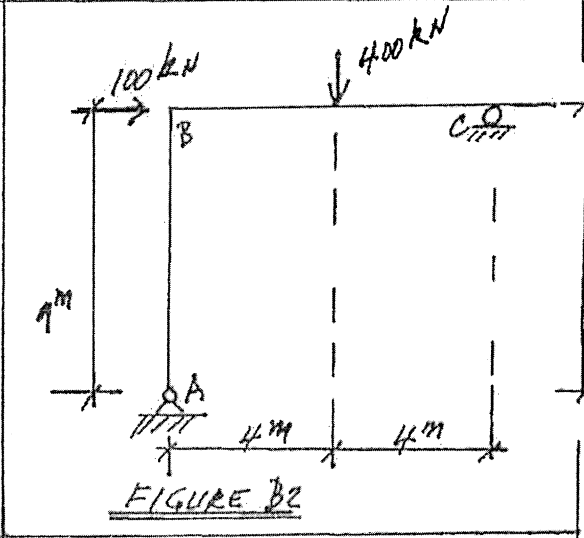

FIGURE B2
- B2. Figure B2 shows the profile of a determinate reinforced concrete frame, ABC. Design a rectangular cross-section and the reinforcing for flexure and shear of beam BC and the column AB. Show the layout of the reinforcement. (Use $f_c' = 35$ MPa and $f_y = 400$ MPa.)
- C1. The determinate frame ABC in Figure B2 is to be designed in timber for a storage building. Design a Douglas-fir glulam rectangular section for the frame, loaded as shown, to satisfy the following conditions: (a) permanent load duration; (b) dry service conditions; and (c) treated.